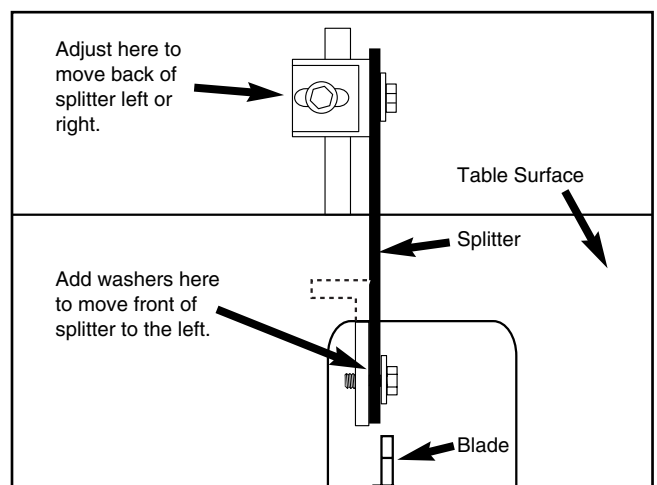
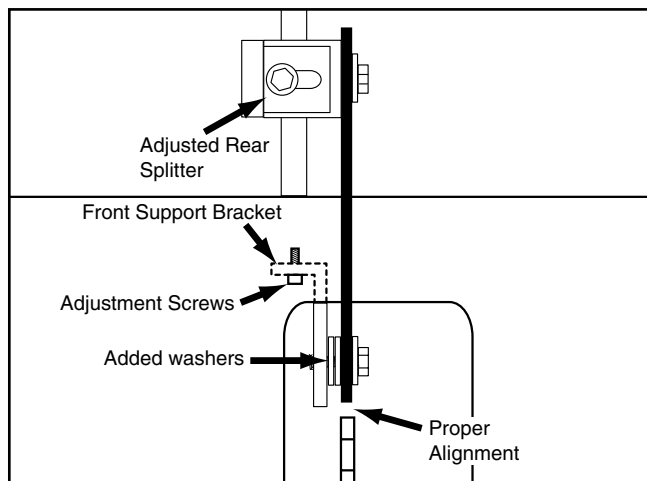

Figure 17. Improper splitter/blade alignment.
Figure 18. Proper splitter/blade alignment.
4. If the blade guard/splitter is to the left of the blade as shown in **Figure 17**, simply add washers between the splitter and front mounting bracket, and adjust the rear splitter support as shown in **Figure 18**.
6. If the splitter is positioned to the right of the blade, alignment cannot be achieved by washer placement. The front support bracket indicated in **Figure 18** must be moved to the left. Loosen the (2) cap screws and adjust.